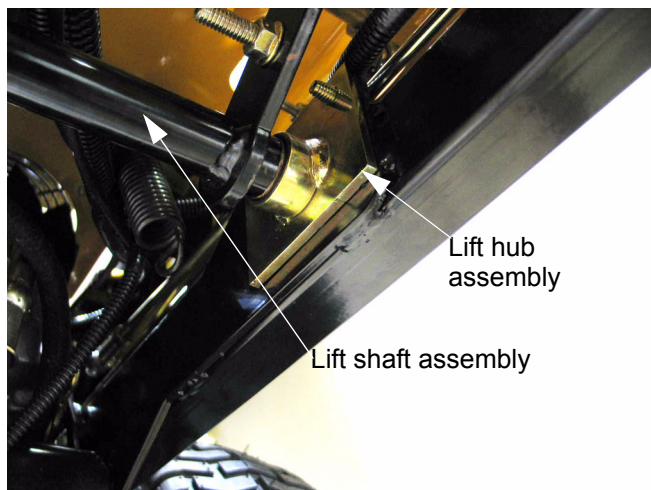

Figure 14.11
- 14.11. Each end of the lift shaft assembly is carried by a hub assembly. See Figure 14.11.